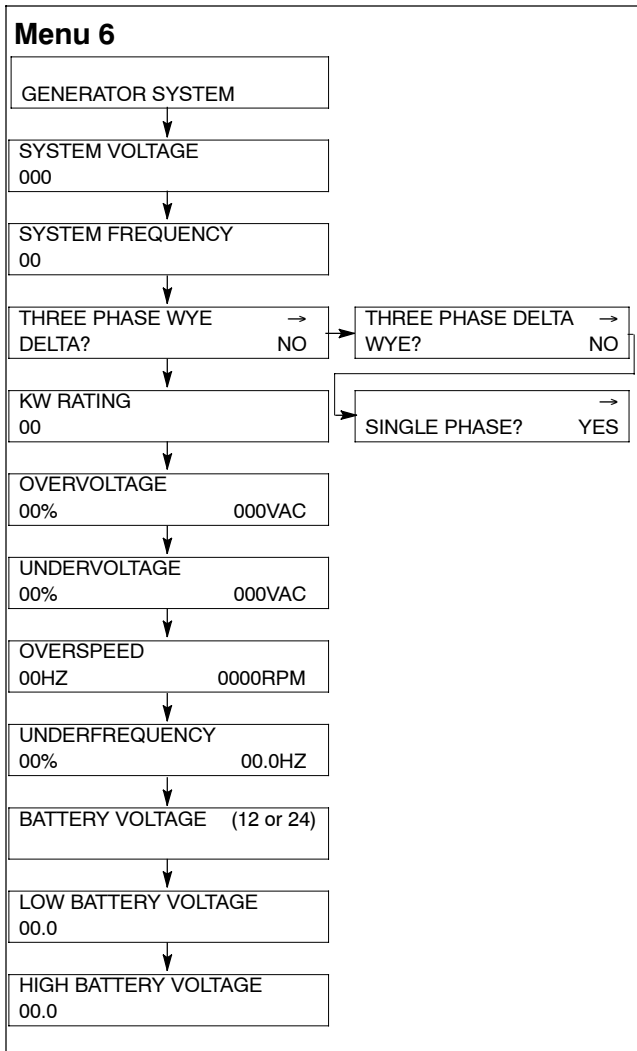

Figure 4-5 Menu 6, Generator System
- b. Go to Menu 6, Generator System and press the down arrow key to System Voltage. See Figure 4-5. Record all data from each display.
- c. Use the numeric and/or YES/NO keys and then press the Enter key to add the data each corresponding display shown in Figure 4-5. Press the down arrow key to access the next display. Use the right arrow key for the three-phase/single-phase entry.